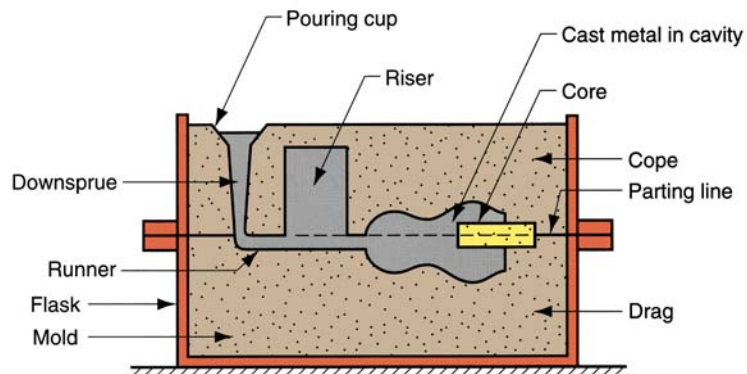

Figure Q1B: Sand casting mold.
- B. A cylindrical riser is to be designed for a sand casting mold. The height of the cylinder is to be 1.25 times its diameter. The casting is a steel rectangular plate with dimensions 15.0 cm x 25.0 cm x 4.0 cm. If the metal is cast iron, and the mold constant = 3.26 min/cm², determine the dimensions (height and diameter) of the riser so that it will take 30% longer for the riser to solidify. The Figure Q1B below shown the sand casting mold.